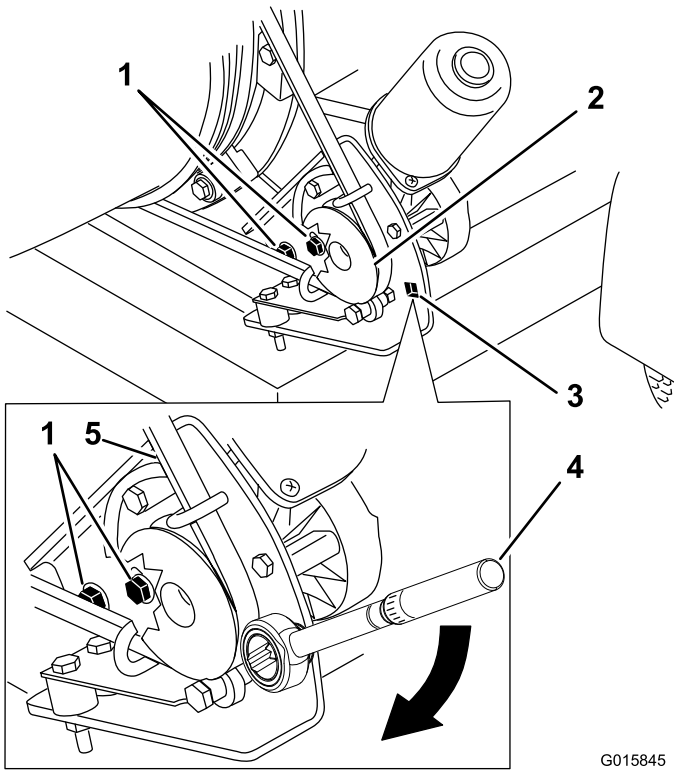

Figure 30
1. Loosen the bolts securing the pulley mounting bracket to the blower frame (Figure 30).
2. Position a torque wrench into the pulley mounting bracket (Figure 30).
3. Pivot the pulley mounting bracket away from the nozzle until the torque wrench reads 22.6 to 26.0 N-m (200 to 230 in-lb) (Figure 30).